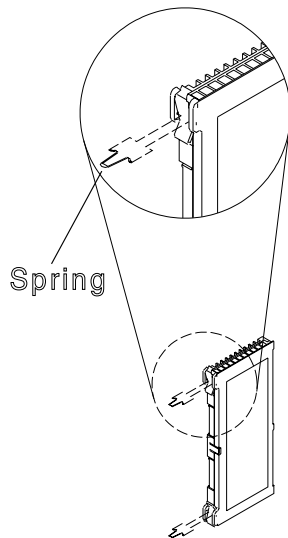

Figure 4-47. Shipping Springs
8. If present, remove the **shipping springs** that secure the extractor levers by squeezing them together. Refer to Figure 4-47.
- a. If present, remove the **shipping springs** that secure the extractor levers by squeezing them together. Refer to Figure 4-47 on page 4-67.